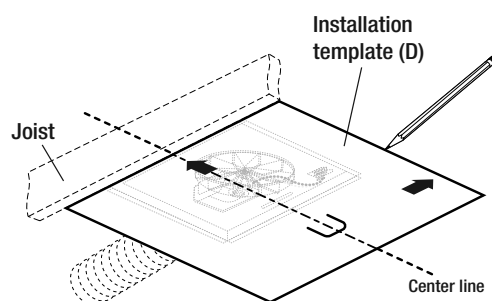

Fig. 3
- Align the provided installation template with the joist side and center line, then draw along the template perimeter. See figure 3.